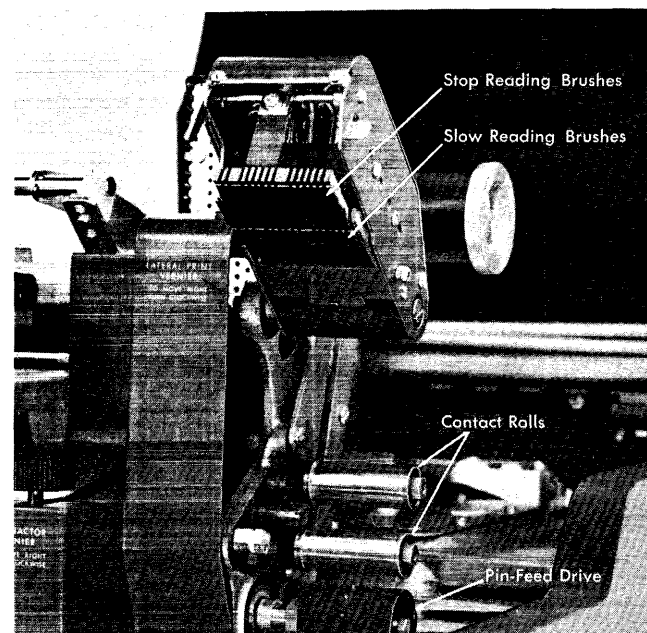

Figure 24. Carriage Brushes
With a dual-speed carriage, two sets of reading brushes (Figure 24) are used to sense holes in the carriage control tape. One set is called the stop brushes, the other the slow brushes. Seven spaces, as measured by the control tape, separate the two sets. Each set contains twelve brushes to read punches in twelve columns in the carriage tape.
4. Holding the tape loop so that the printed captions can be read, place the tape over the pin-feed drive (see Figure 24) so that the pins engage the center drive holes. The line numbers on the tape must face the right end of the 1403.